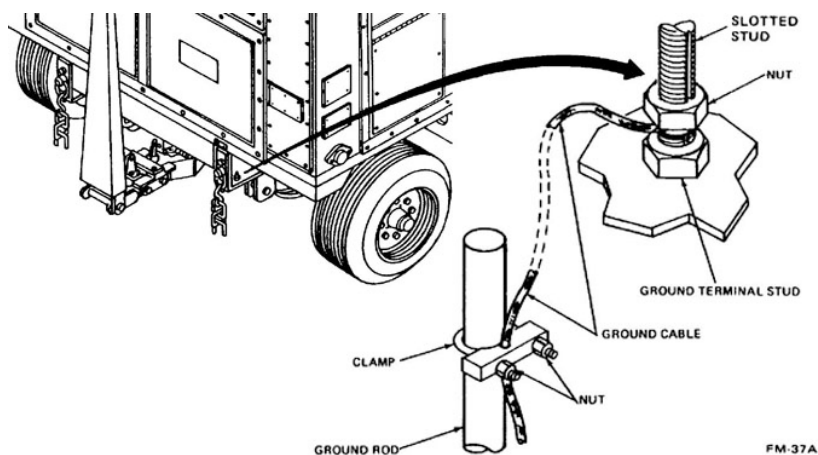

Figure 1-4. MEP-12 ground studs.
- Drive ground rods into ground until rods protrude 6 inches above surface. Secure other end of round cable to ground rods (fig. 1-4). Connect clamps and ground cable to exposed ground rods and secure by tightening nuts.